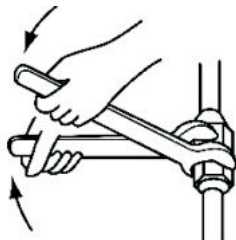

Fig.8.2 Screw up Nut Cap
- (2) As shown in Fig.8.2, screw up nut cap. Refer to the torque required below: